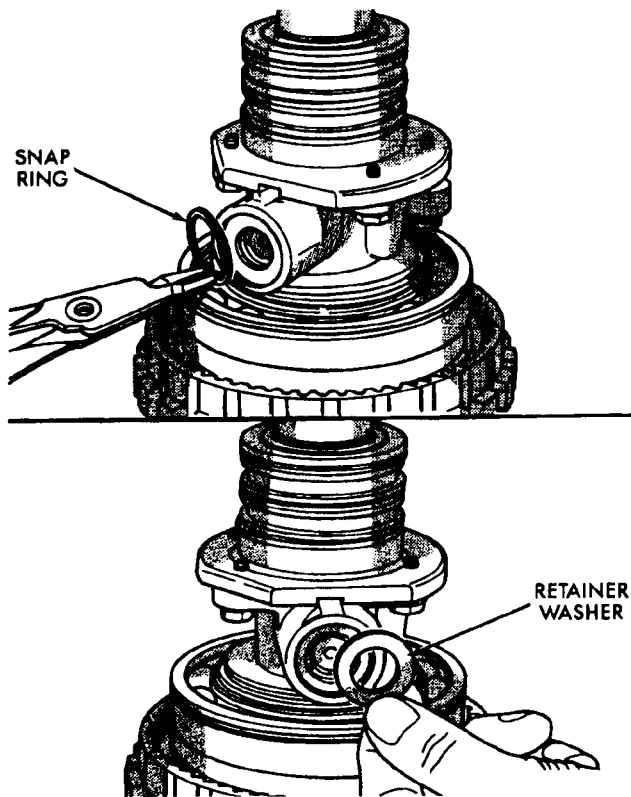
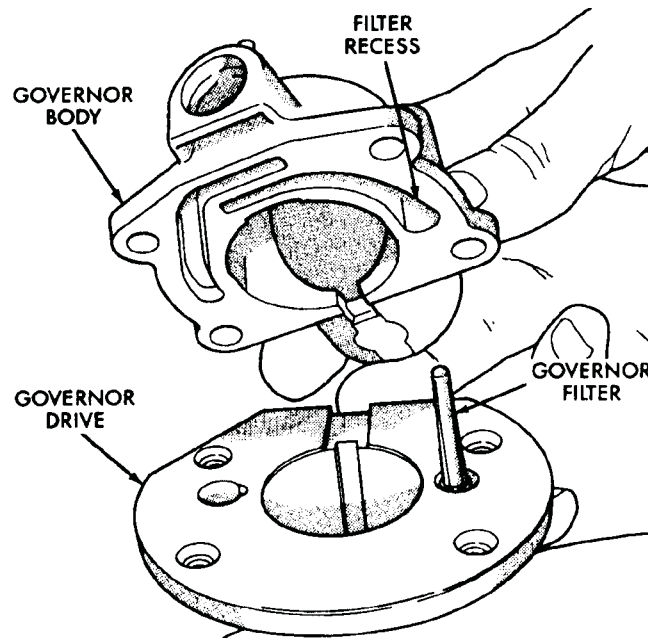
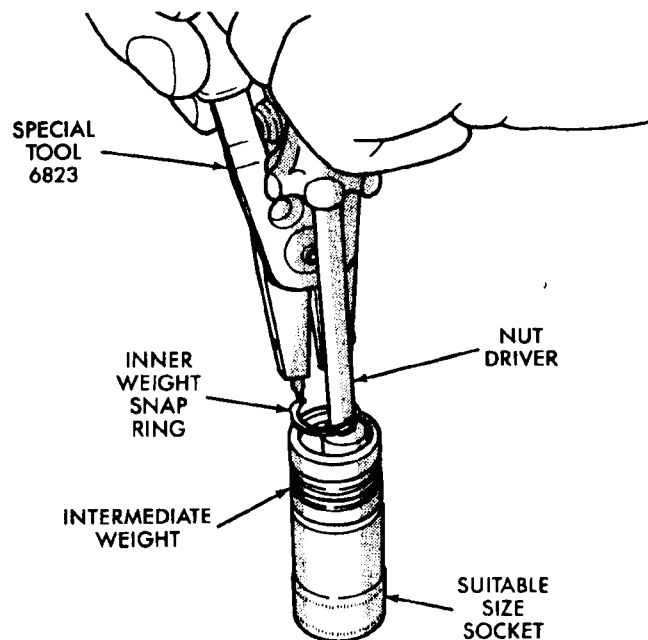
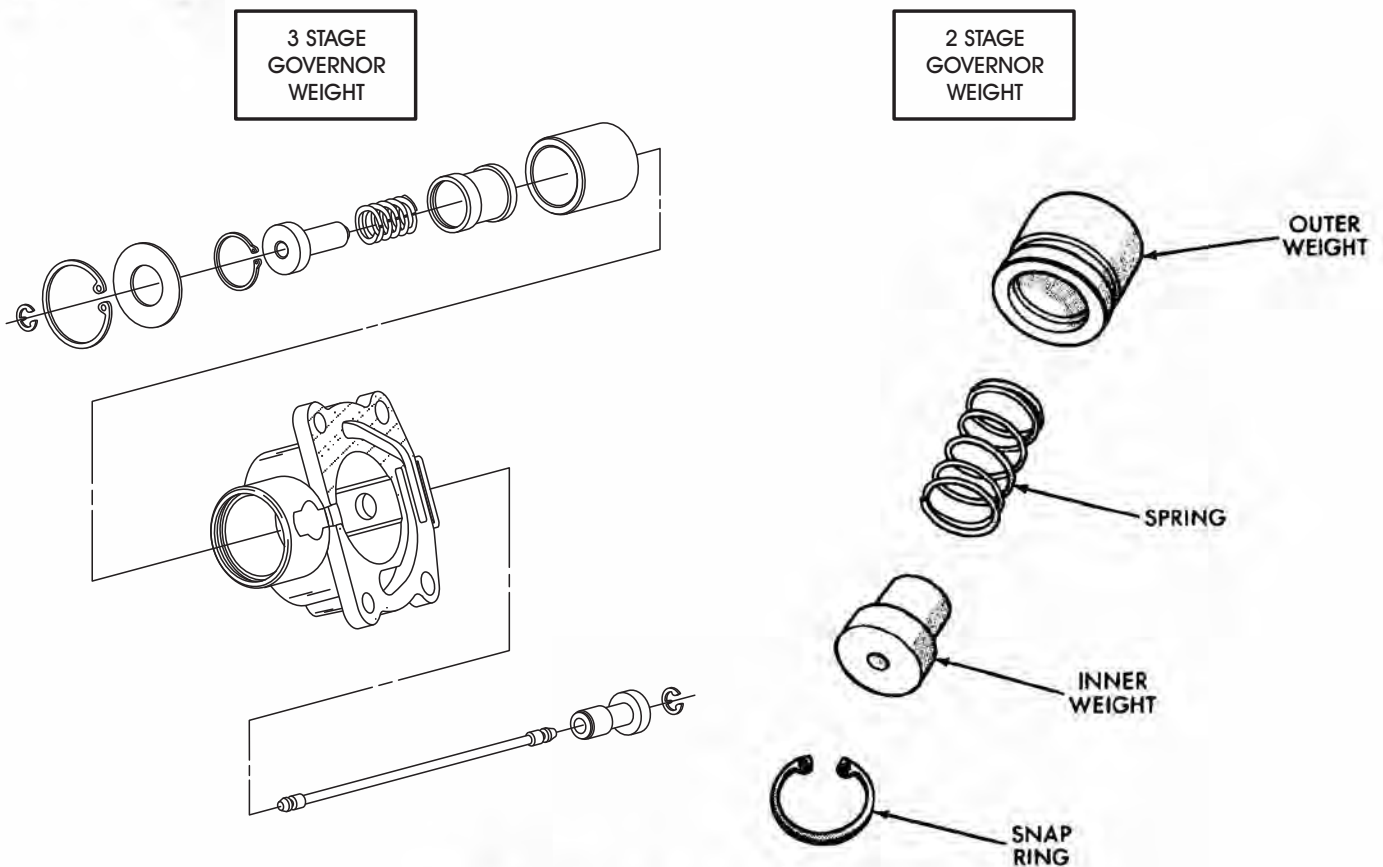

Fig. 38 Governor Weight Retainer Washer And Snap Ring Removal
Fig. 40 Governor Body And Filter Position (On Drive)
Fig. 41 Inner Weight Snap Ring Removal/Installation
Fig. 44 Governor Weight Components
- (1) Remove snap ring and washer that retain governor weight assembly in governor body (Fig. 38).
- (2) Remove governor weight assembly from governor body.
- (3) Note position of governor body on drive.
- (4) Clamp edge of governor drive in vise and loosen governor body bolts.
- (5) Remove bolts attaching governor body to drive.
- (6) Remove governor body (Fig. 40).
- (7) Remove filter from governor drive. Note position of filter for assembly reference (Fig. 40).
- (8) Disassemble governor weight:
- (b) Position intermediate weight on suitable size socket (Fig. 41).
- (c) Press inner weight downward with nutdriver or similar tool (Fig. 41). Then remove inner weight snap ring with Plier Tool 6823 (Fig. 41).
(2) Insert filter in governor drive. Filter goes in hole to right of key slot as shown in Figure 40.
(3) Align and position governor body on drive. Be sure filter is seated in recess in governor body (Fig. 40).
(4) Install and tighten governor body bolts snug but not to specified torque at this time.
(5) Assemble governor weight components (Fig. 44). Be very sure outer, intermediate and inner weights are clean. **Set weight assembly aside temporarily. Assembly will not be installed until after governor drive is seated on output shaft.**